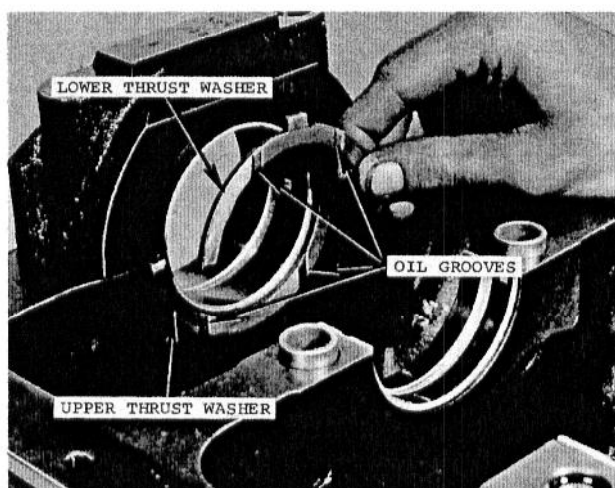

Fig. 24 - Crankshaft Thrust Washers
5. Lubricate new upper halves of thrust washers (those without locating lugs) and rotate them into place with the vertical grooves facing the crankshaft as shown in Fig. 24.
2. Install upper halves of crankshaft thrust washers (those without locating tabs) on each side of the rear wall of the block housing, so the grooved side is toward the crankshaft. (See Fig. 24.)